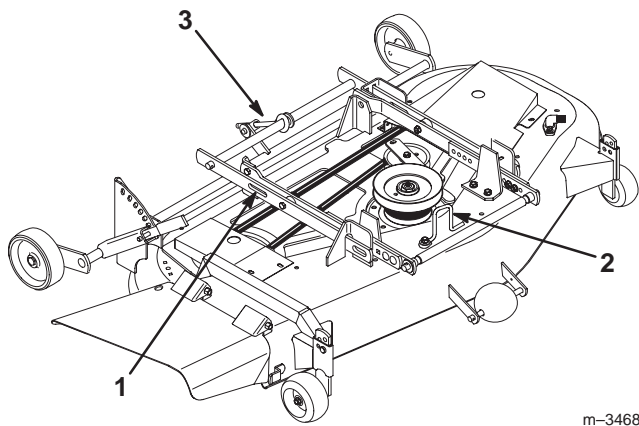

Figure 6
4. Position the mower so that the slots in the side of each of the mower mounting brackets (Fig. 6) are aligned directly below the tractor attachment lift arm.